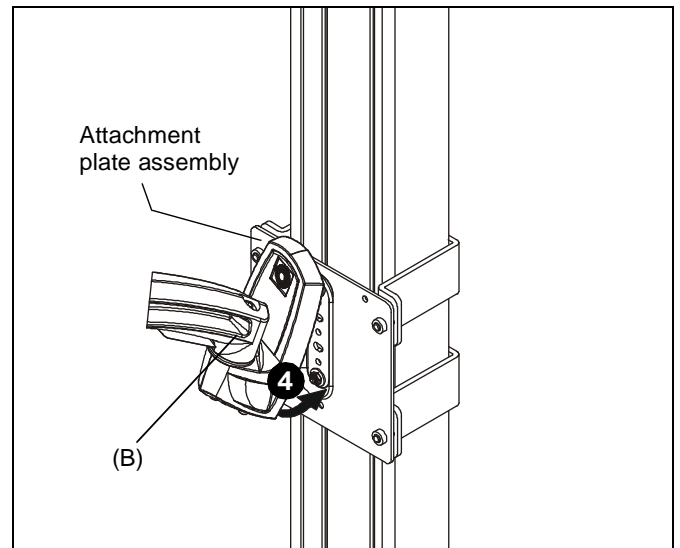

Figure 3
- Swing height-adjust assembly (B) down flush against attachment plate assembly. (See Figure 3)